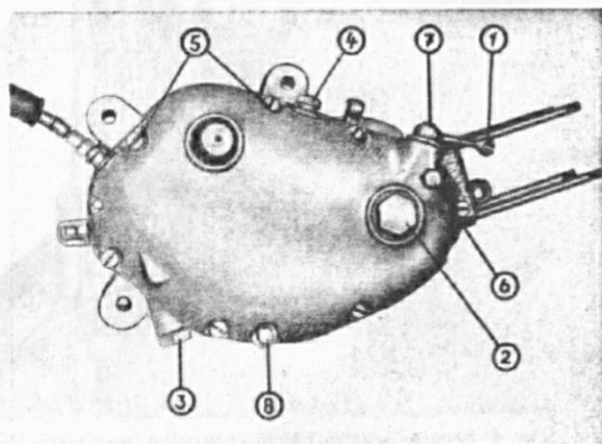
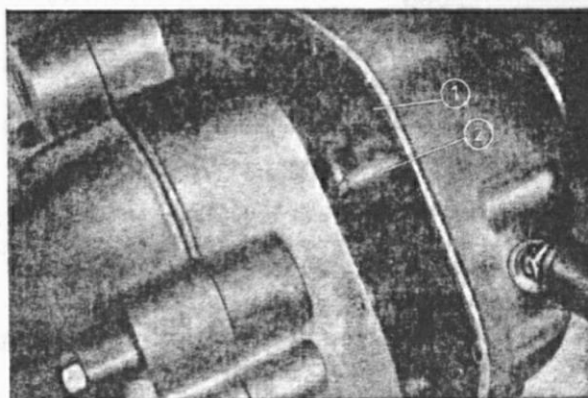
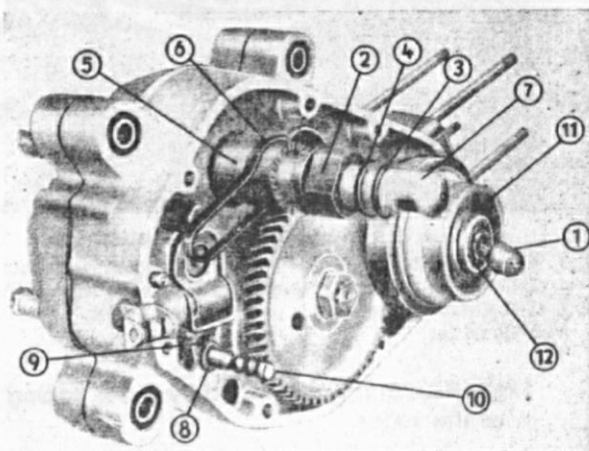

Fig. 5: Engine, right-side view
Fig. 6: Removing the crankcase cover
Fig. 7: Starter mechanism
- a) Clutch cable: Loosen cable by pressing the declutching lever (Fig. 5/1) at the engine case against the cable end, detach cable, unscrew nut of adjusting screw, and pull out the latter.
1. Unscrew centering screw (Fig. 5/2) (guide for clutch thrust bearing nut).
2. Unscrew catch guide (Fig. 5/3) and oil level plug (Fig. 5/4).
3. Unscrew retaining screws of crankcase cover (Fig. 5/5) — seven screws —, loosen cover by means of a rubber mallet, and raise cover until brake lever (Fig. 6/1) of coaster brake becomes visible (Fig. 6).
Then slide the brake lever from its claw collar (Figs. 6/2 and 7/2), turn declutching lever until the shaft passes the ball nut (Fig. 7/1), the big
4. The declutching shaft cannot be pulled off before the crankcase cover has been lifted. Unscrew fixing bolt (Fig. 5/6) of declutching shaft, pull out declutching shaft (Fig. 5/7) together with declutching lever (Fig. 5/1).
1. Remove brake spring (Fig. 7/6) from driver (Fig. 7/5).
2. Remove lock washer (Fig. 7/8) and supporting disc (Fig. 7/9) from gearshift rail (Fig. 7/10).
1. Remove large circlip (Fig. 7/11) from clutch thrust bearing (Fig. 7/12), remove set bolt together with thrust bearing (Fig. 7/12). Bend up